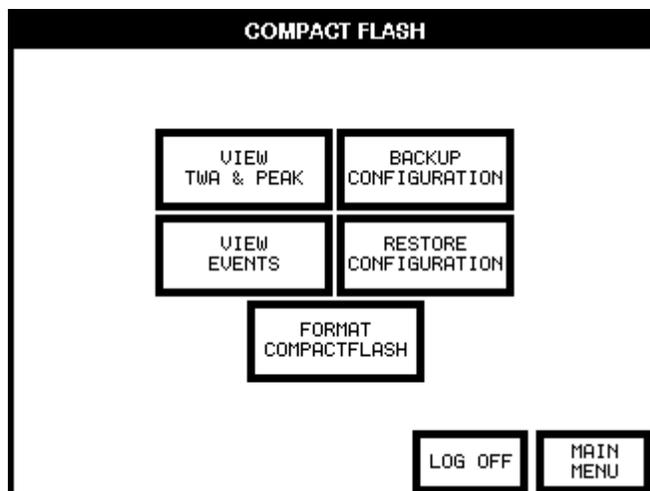

Figure 30 Compact Flash Screen
The Compact Flash screen allows the user to view data logging files from the Compact Flash (CF) card if one is installed. The user can also reset (delete) data logging files and save & load controller configurations from this screen. This screen (Figure 30) is displayed by selecting the COMPACT FLASH menu button from the System Configuration screen.